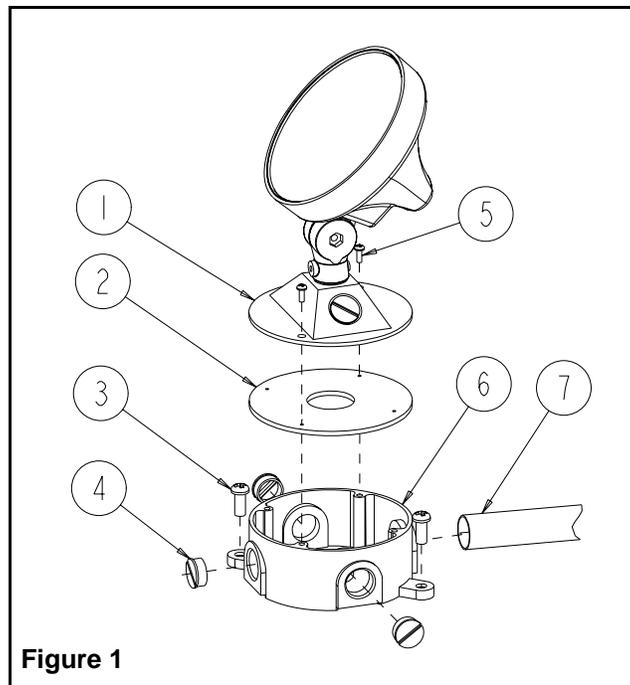

Figure 1
5. Place the gasket on top of the junction box, and then the lamp-cover-assembly. Use the two cover screws to fix in place (see fig. 1).